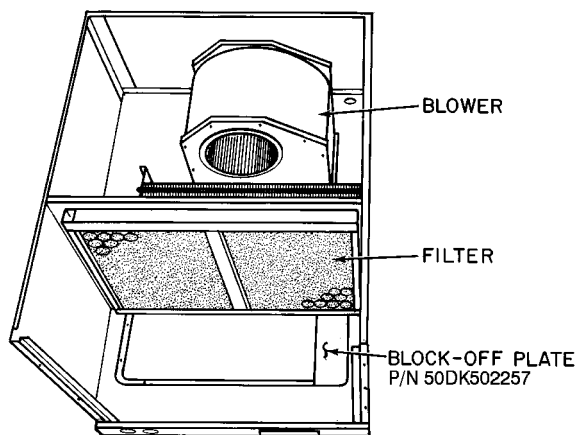

Fig. 13 — Vertical Discharge Block-Off Plate (Size 012 Only)
4. On 012 units, install vertical discharge block-off plate over duct openings. See Fig. 13.